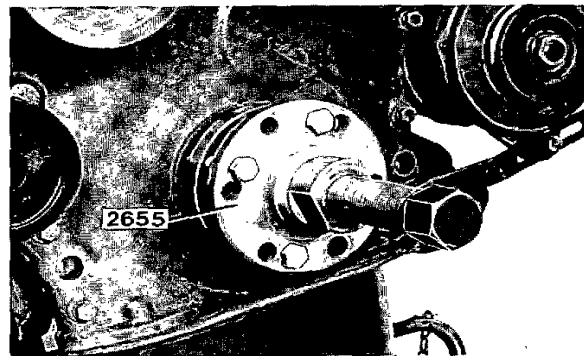

Fig. 76. Removing the polygon hub.
5. Loosen the polygon hub centre bolt and then remove the polygon hub using puller 2655 (fig. 76).